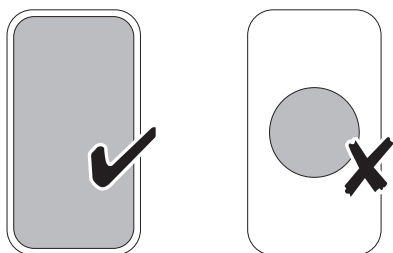

Fig. 2-10
**DO NOT** use zones C, D or E to heat the griddle (**Fig. 2-10**).